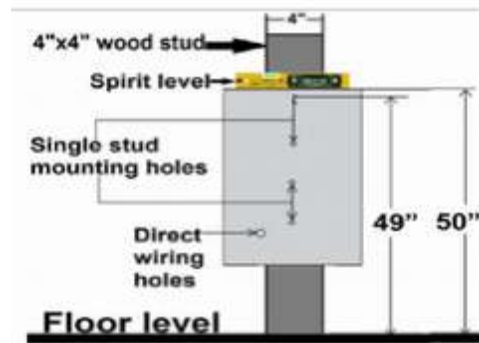

Figure 5: Mark and drill 4 mounting holes using 5/32-inch wood drill bit.
- Place the template on the wall aligning to the centre of the 4"x4" wood stud as shown in Figure 5.